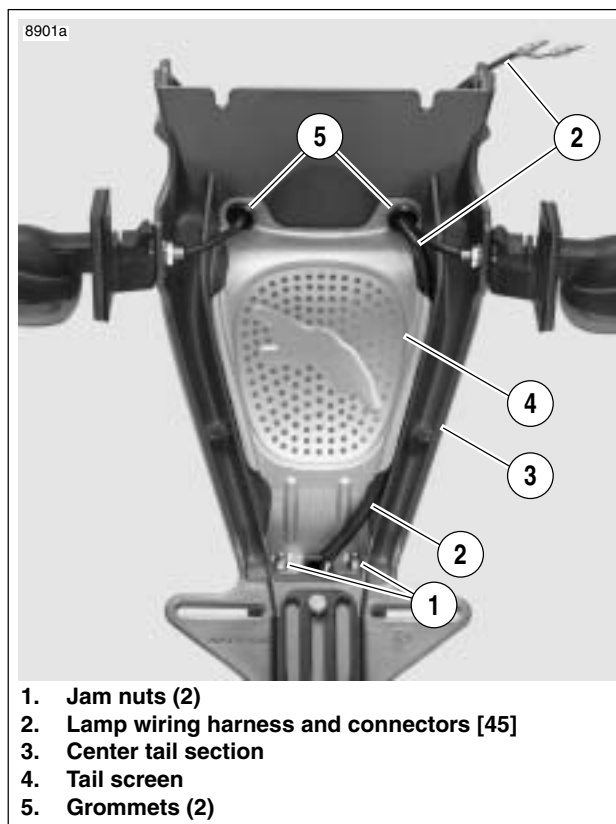

Figure 7-46. License Plate Lamp Mounting
2. See Figure 7-46. Disconnect the two connectors [45] from license plate lamp harness (2).
3. Remove two jam nuts and washers (1) to detach license plate lamp from center tail section (3).
1. See Figure 7-46. Install license plate lamp assembly.
- a. Insert license plate lamp wiring harness (2) through hole at rear of center tail section (3) and route between the tail section and the tail screen (4).
- b. Attach lamp assembly to tail section using washers and jam nuts (1) and tighten to 12-36 in-lbs (1.4-4.1 Nm).
- c. Attach the two connectors [45] from license plate lamp harness (2) to main harness.